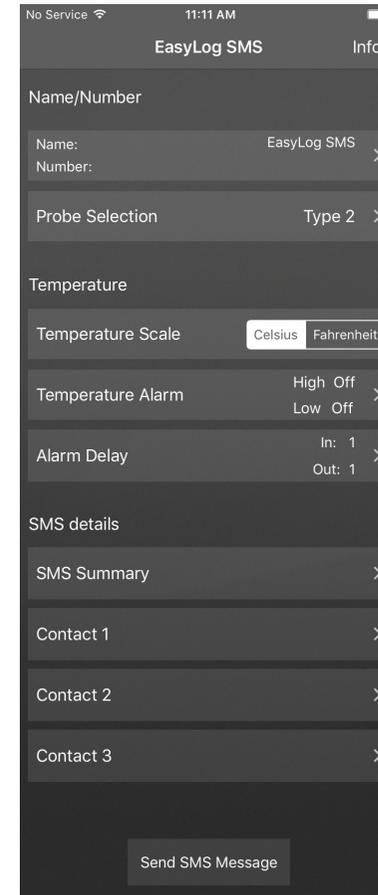

Fig. 1
2. Open the App (see Fig. 1). Full Setup – Configure the device by tapping the options in the list.
- 10. Press the “Send SMS Message” button to send the configuration message to the EL-SMS device (See Fig. 1).